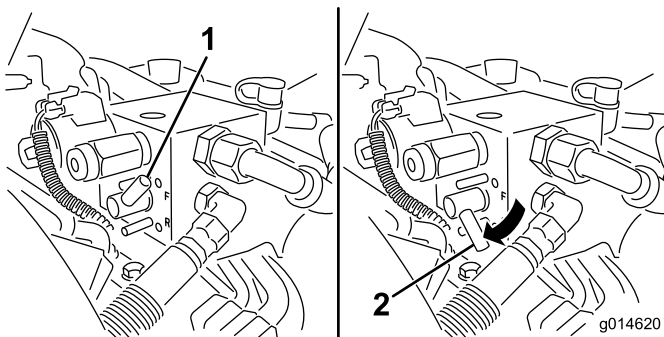

Figure 54
5. Rotate the Backlap Lever to the reverse (R) position (Figure 54).